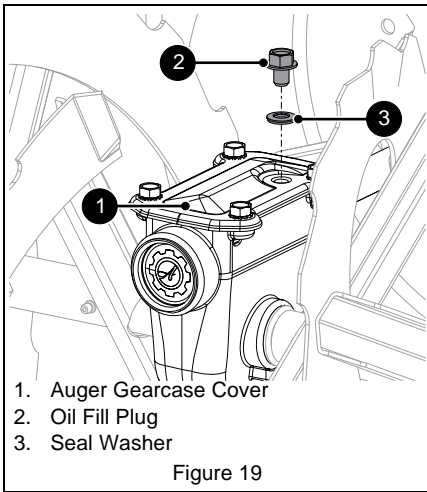

Figure 19
2. Remove oil fill plug and seal washer. See Figure 19.